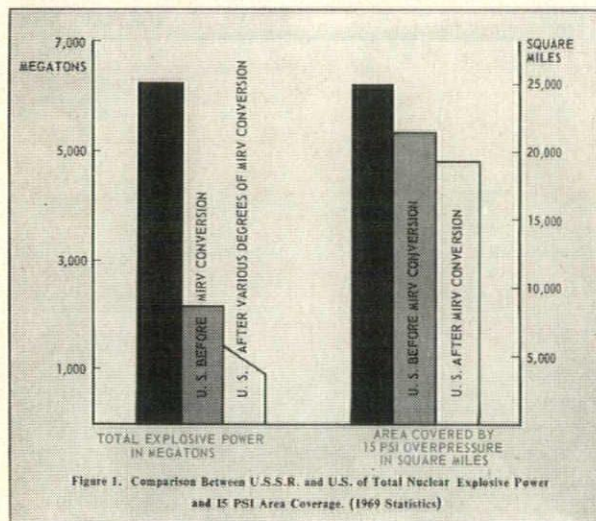

Figure 1
1. The U.S.S.R. has 4 to 5 times more total deliverable explosive power (Figure 1) than possessed by the U. S.
2. Preparation against area coverage (Figure 1), a measure of instant destruction, could become a decisive survival factor and an impelling reason for fallout shelters. The U. S. is only 20 to 30% behind the U.S.S.R. in terms of area covered. The total civil defense picture in the U.S.S.R. appears to be much superior to that of the U. S.